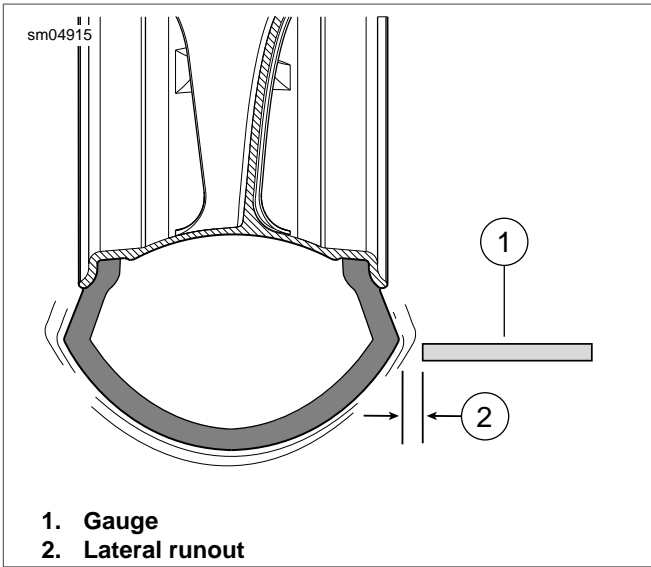

Figure 2-29. Lateral Runout
- See Figure 2-29. Turn wheel on axle and measure amount of displacement from a fixed point to tire sidewall.